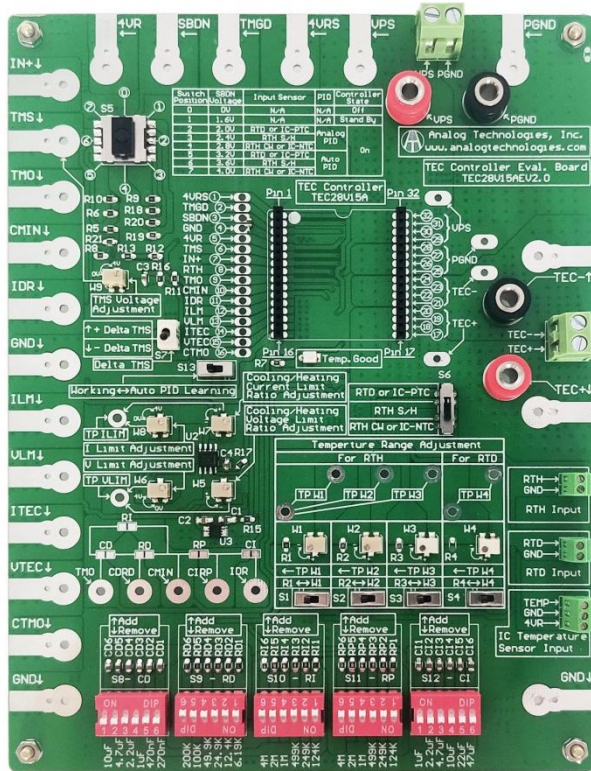
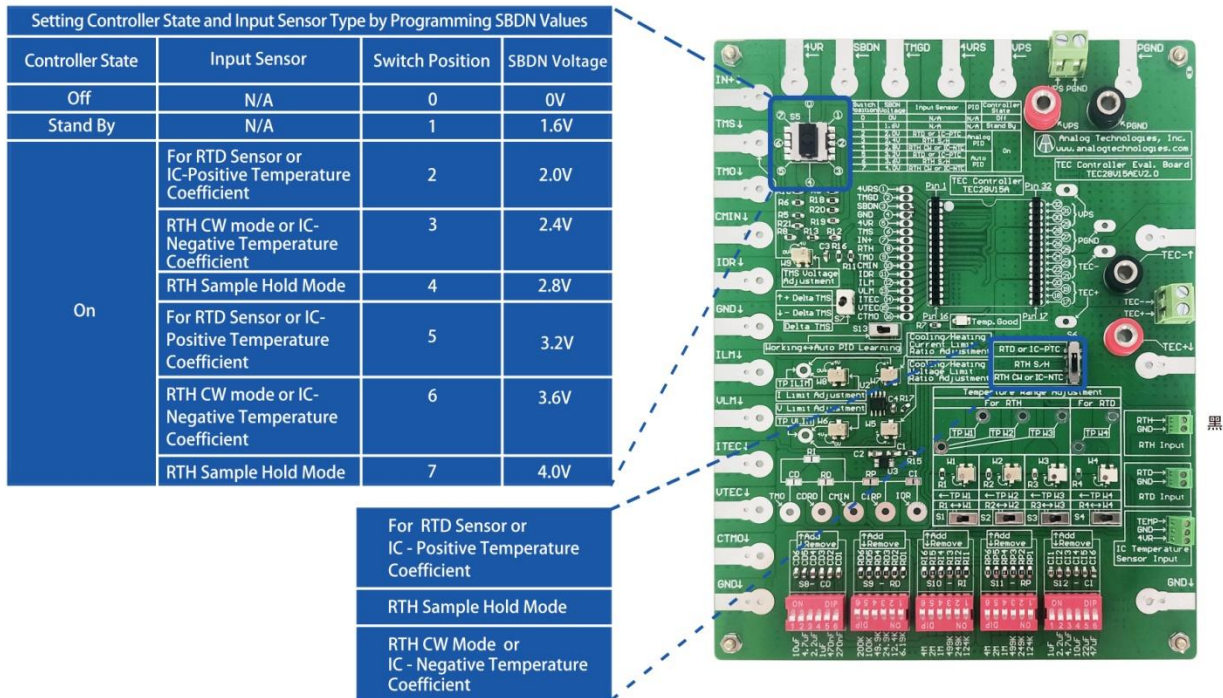
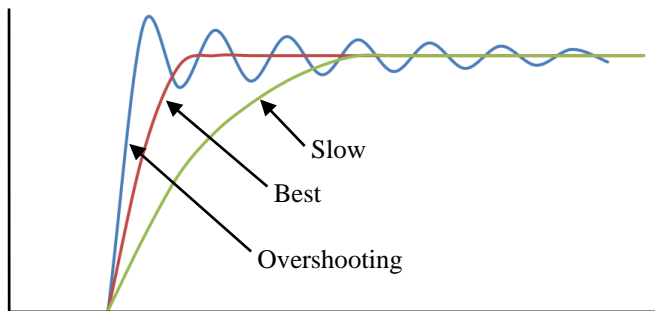
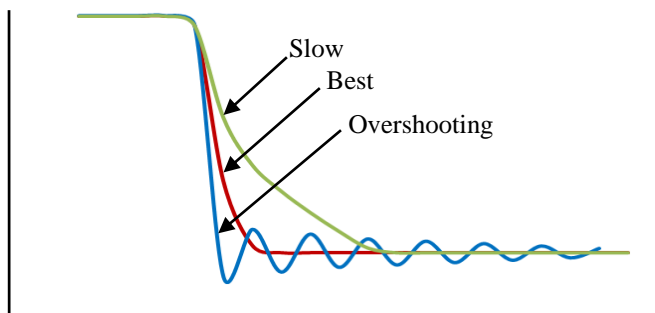

Figure 1. The physical photo of TCE28V15AEV2
Figure 4. Additional Information for Evaluation Board
Figure 11. Rise Waveforms of IDR
Figure 12. Fall Waveforms of IDR
The TEC28V15AEV2 Evaluation Board is consisted of a complete application circuit for driving a TEC controller. It can set the output current, the output current limit, has an LED for indicating the working status of the controller, has numerous connection pads and terminal connectors for making connections with external components and instruments. Its physical photo of TEC28V15AEV2 is shown in Figure 1.
3. In the PCB shown in Figure 1, there is an error in the function selection table of switch S5. See Figure 4 or Table 2 for the correct table.
Hook up the power supply, TEC and thermistor. There are 2 solder pads in the upper right area on the edge for connecting the DC power supply voltages. The connection can be done by clipping or soldering on the pads. Usually the power supply is set from 5V to 28V, a power supply of about having higher voltage than the maximum output voltage. There are also 2 solder pads in the upper right area on the edge for connecting the TEC terminals in the right polarity as indicated onto the board. Connect the thermistor terminals to the board, there is no polarity requirement. On the top of the board, there is the switch bank S5, which is used for adjusting S5 to achieve different functions, in Table 2. At the same time, adjust the position of S6 with S5. There is an IC port on the bottom left of the edge for IC temperature sensor input. The switch of S7 is used to adjust the compensation network of temperature control loop by inputting a square wave disturbing signal in temperature input point, which enables the system to generate corresponding response waveform. At this time, observe the waveform change by oscilloscope, and adjust and optimize the compensation network of the temperature control loop so as to achieve the best waveform at the same time. Response waveform is achieved by measuring IDR with oscilloscope, as shown in Figure 11 and Figure 12. The compensation network components consist of R_I , R_D , R_P , C_D and C_I , which will be adjusted by S8, S9, S10, S11 and S12. These connections can be done by clipping or soldering on the pads, see Figure 1. Check the evaluation board connections, making sure that they are all correctly connected.